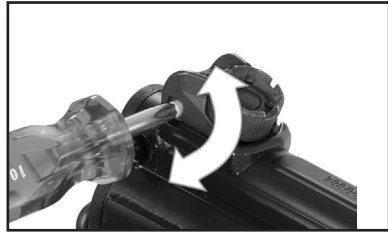

Fig. 18 – Turn windage Adjustment screw
2. Turn windage adjustment screw clockwise (Fig. 18).
2. Turn windage adjustment screw counter-clockwise (Fig. 18).